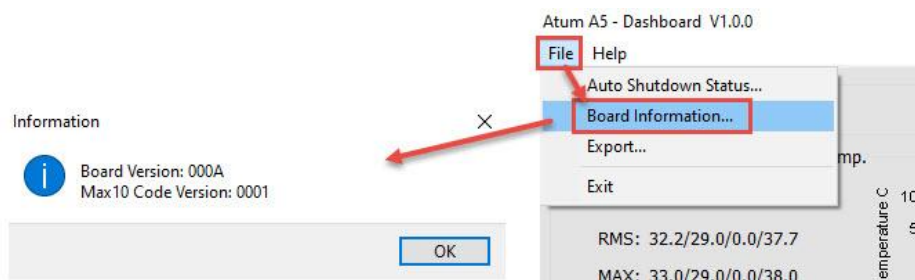

Figure 3-16 Board Information
- **Board Information**: There is a **File** page on the upper left of the Dashboard GUI program window, click the **Board Information** to get the current software version and the Atum A5 board version, as shown in **Figure 3-16**. **Note**, user needs to stop the system monitor (press the “**Stop**” button on the Dashboard GUI), then you can run the Board Information.